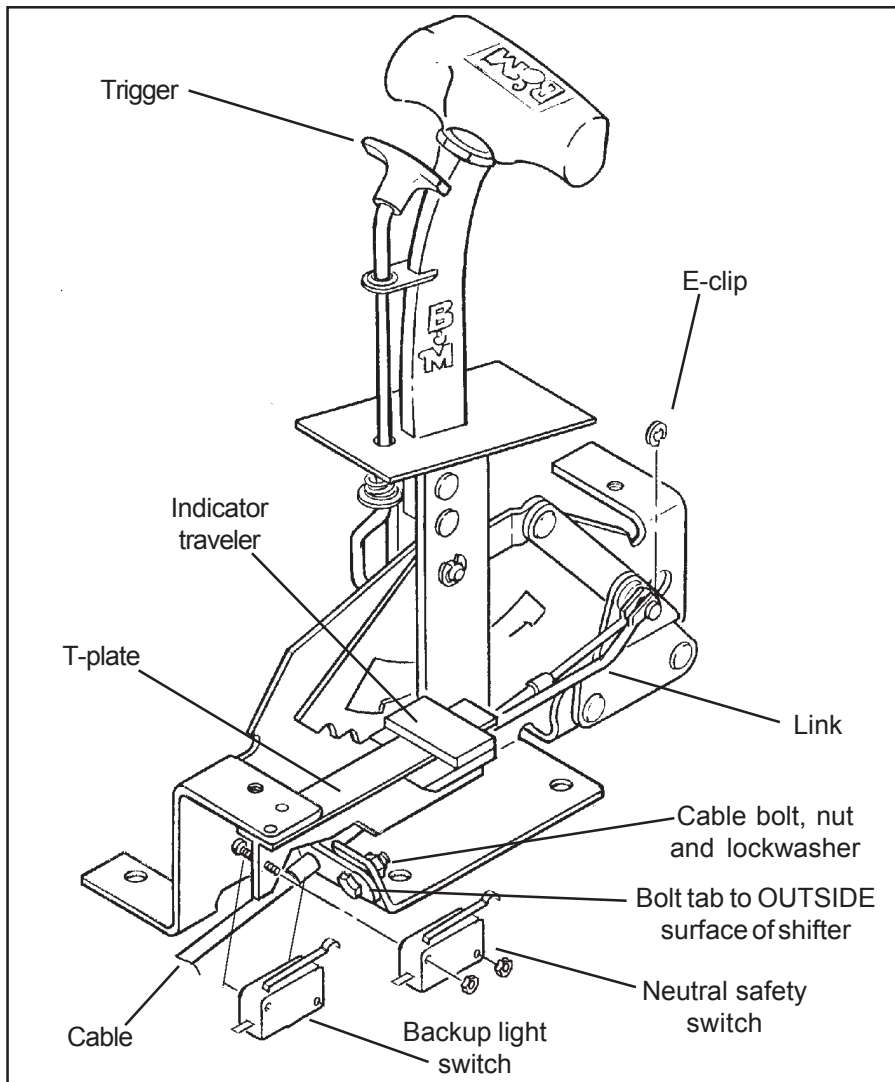

Figure 1
STEP 5. Install the plastic indicator traveler and link onto the T-plate track. The bent end of the link goes through the hole in the traveler from the left side of the shifter. Install the cable on the shifter as shown in **Figure 1.** The cable attachment tab must be bolted to the outside surface of the shifter base using a 1/4" X 1/2" hex bolt, a lock washer and a nut. Put the end of indicator link on the cable pin outside of the shifter cable. Install the e-clip to secure the cable and the indicator link to the cable pin.
STEP 6. Place the shifter in first gear ratchet mode (stick all the way back). Position the backup light switch on the inside of the T-plate and the neutral safety switch on the outside of the T-plate with the long fingers on the switches towards the plastic traveler using the forward pair of holes in the T-plate. Assemble the backup and neutral safety switches to the shifter using two #4-40 screws, nuts and lock washers, as shown in **Figure 1.** **Beware,** over tightening the switch attachment screws will crack the switch housings. Adjust the switches so that the neutral safety switch operates in Neutral and Park only and the backup light switch op-
'66-'68: The neutral safety switch will continue to function normally. It will not be necessary to hook up the neutral safety switch wires on the shifter. Disconnect the battery ground cable before wiring the backup light switch. Locate the original backup light switch on the steering column or the console shifter. Run these wires to the **INNER** switch on the shifter (**See Figure 1**). Reconnect the ground wire and check the light for proper operation. Adjust the switches on the shifter if required.